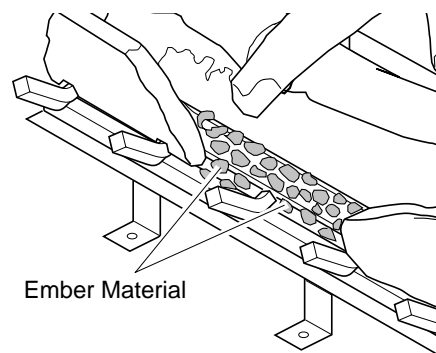

Figure 52 - Placing Ember Material on Burner
6. Pull ember material apart into pieces no larger than a dime. Place these pieces loosely and sparingly directly onto the exposed section of the front burner and along the space between the burner and grate prongs (see Figure 52). This will create the glowing ember appearance as the flame touches the ember material. Do not block air slots by using too much ember material in one area. It is not necessary to use all of the ember material provided.